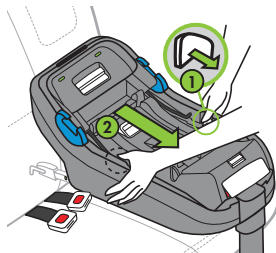

Figure 51
Extend UAS Connectors by pressing and holding both UAS Adjustment Buttons (1), and then pulling the Base toward you (2), as shown in **Figure 51**.